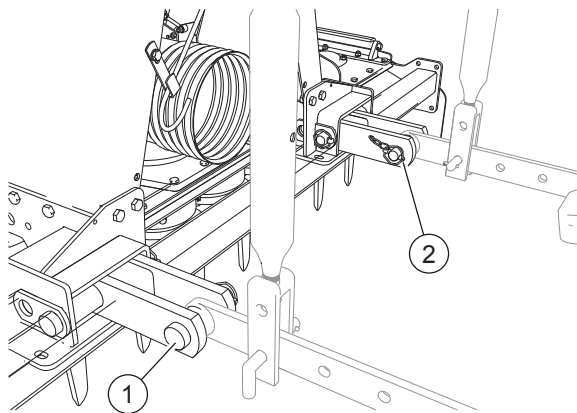

FIG. 24
- Move the power-lift bars to the lower hitches ("Fig. 24"). Insert the attachment pins (1). Fasten the pins with the trigger pins (2) part of standard equipment.